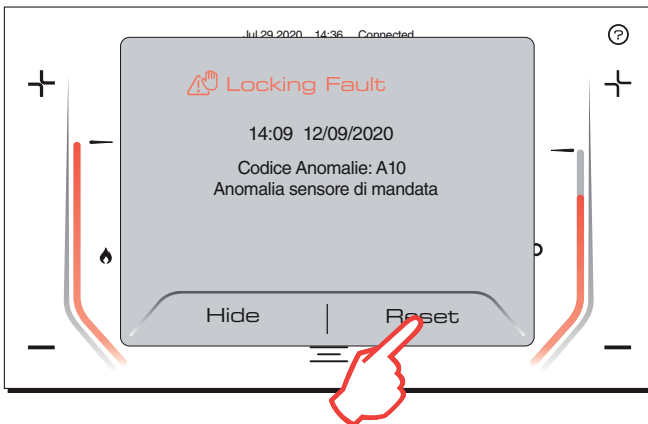

fig. 33
- 1 - Touching [RESET] when a screen similar to that shown in fig. 33 appears.